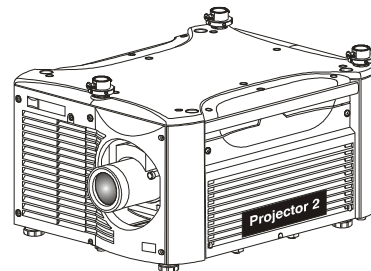

Figure 2-11 Adjust the Feet
- Place 1 projector on its side to access its adjustable feet, and stacking legs (Figure 2-11).